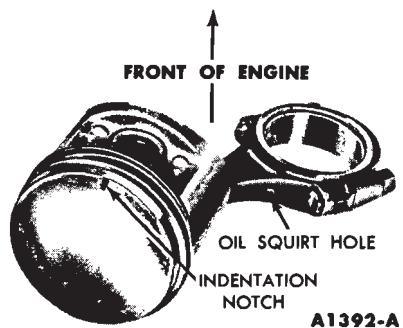

FIG. 35—Typical Piston and Connecting Rod Assembly
1. Apply a light coat of engine oil to all parts. Assemble the piston to the connecting rod with the oil squirt hole in the connecting rod and the indentation in the piston positioned as shown in Fig. 35.